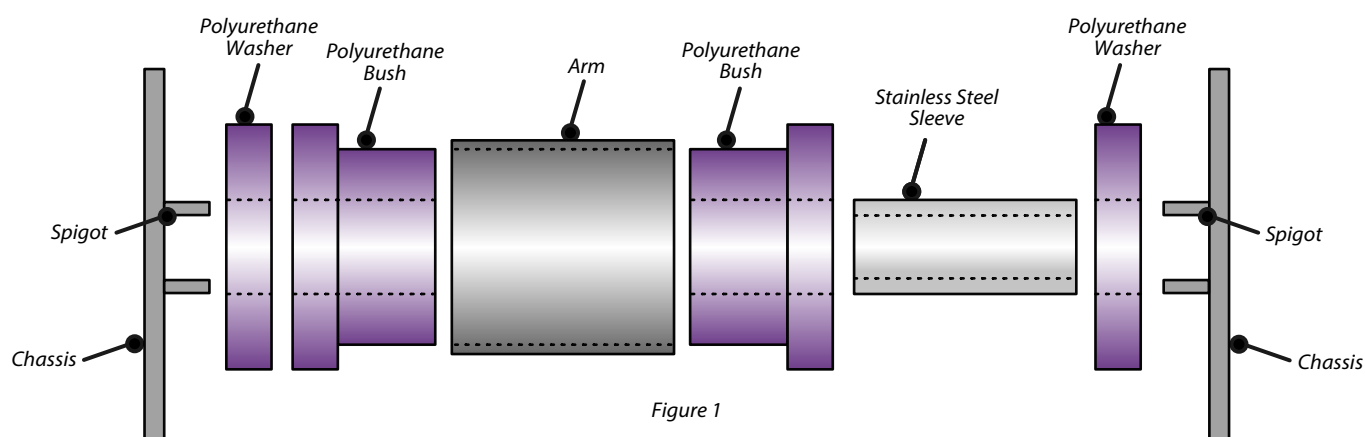

Figure 1
5. Fit the supplied PU washers (1-201B) over each of the chassis mount thrust washer spigots as shown in Fig 1.